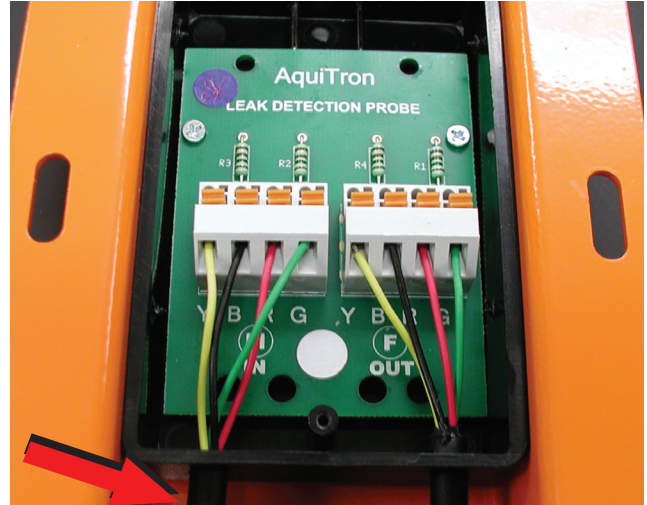

Figure 3. Multiple probe wiring configuration and suggested tie wrap location
The modular jumper cable is connected to the terminal strip labeled OUT position as shown in Figure 3.
- Refer to the Figure 3 for the wiring connections associated with use of the TT-FLAT PROBE in a chain of TraceTek leak detection cable or other TT-FLAT PROBE.
- Connect the colored wires in the jumper cable segment with the male connector end per the Yellow (Y), Black (B), Red (R), Green (G) markings next to the terminal strip labeled IN.
- Connect the colored wires in the jumper cable segment per the Yellow (Y), Black (B), Red (R), Green (G) terminal strip markings.
Attach the provided plastic tie wrap to any connected jumper cable very close to interior side of the black wall of the unit. See the arrow on Figure 3 as a guideline for where to apply the tie wrap. Be sure to cut off excess portions of the tie wrap once secured to the cable, so that the rear cover can easily be reinstalled.